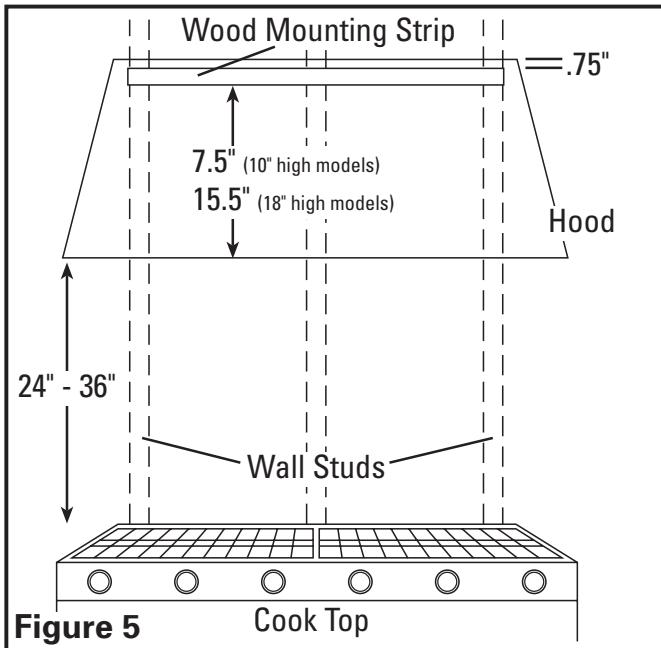

Figure 5
- Measure and mark a level line on the wall above the cook top for the included wood mounting strip. The height of the mounting strip will depend on your specific installation and should be .75" below the top of the hood canopy height (Figure 5).